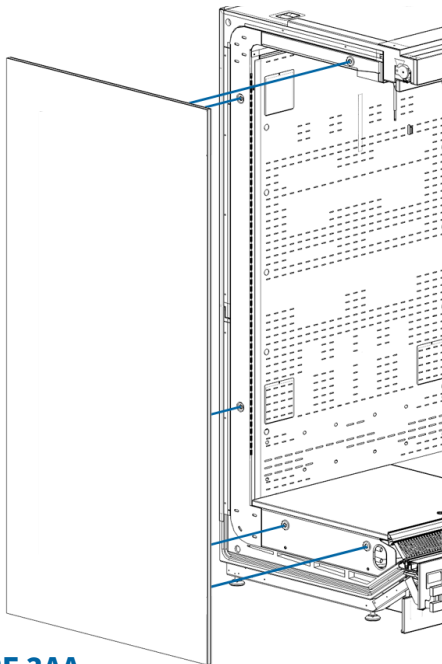

FIGURE 3AA
2. Ensure case is in its final position and is levelled, and line up end with frame holes as seen in Figure 3AA.